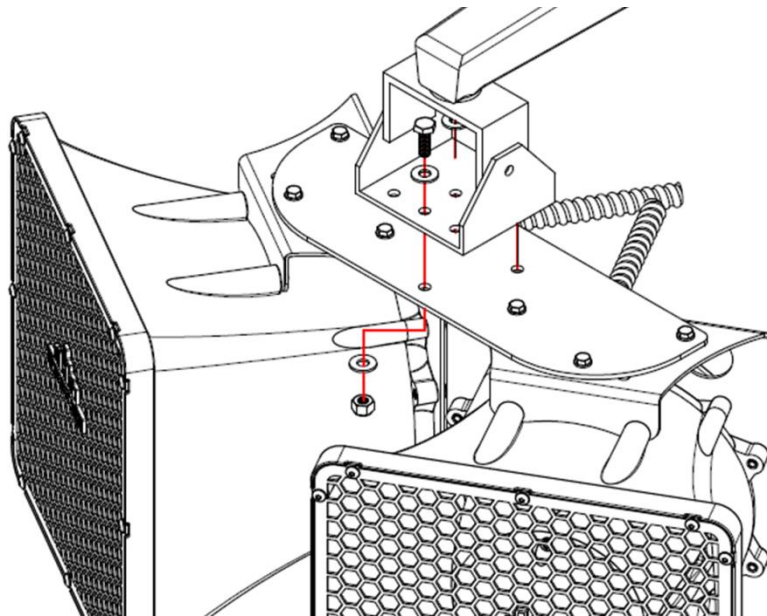

Figure 6: Attaching Dual Speaker System to a Wall Mounting Bracket
- 2) Attach the wall mount bracket to the middle holes of the dual mount plate with three ¼-20 bolts (Figure 6).